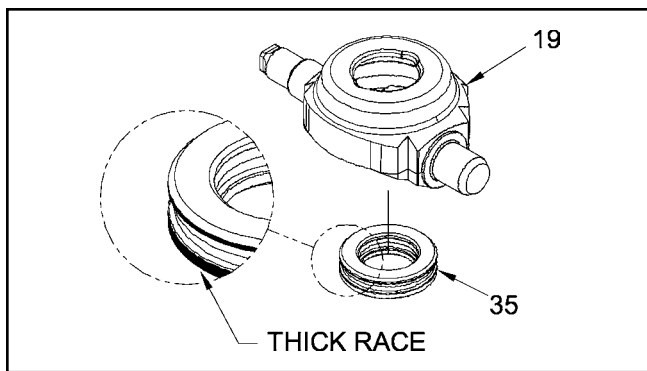

Figure 19.
11. **(See Figure 19)** Remove the thrust bearing
11. **(See Figure 19)** Install the pump thrust bearing (35) in the trunnion machined swashplate (19). NOTE: Place the thin race of the bearing towards the swashplate. The thick race must face the pistons.